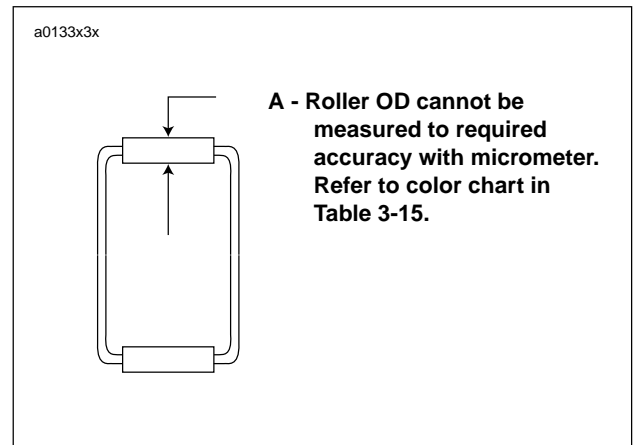

Figure 3-145. Bearing Identification
- See Figure 3-145. Pinion bearings are identified as shown.